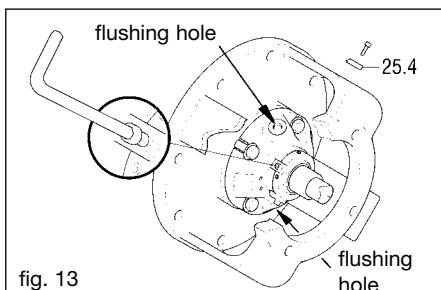

fig. 13
- Remove the setting plates (25.4) which hold the seal (fig. 13) and fix them in the appropriate holes in the flange so that they can be used again to remove the seal